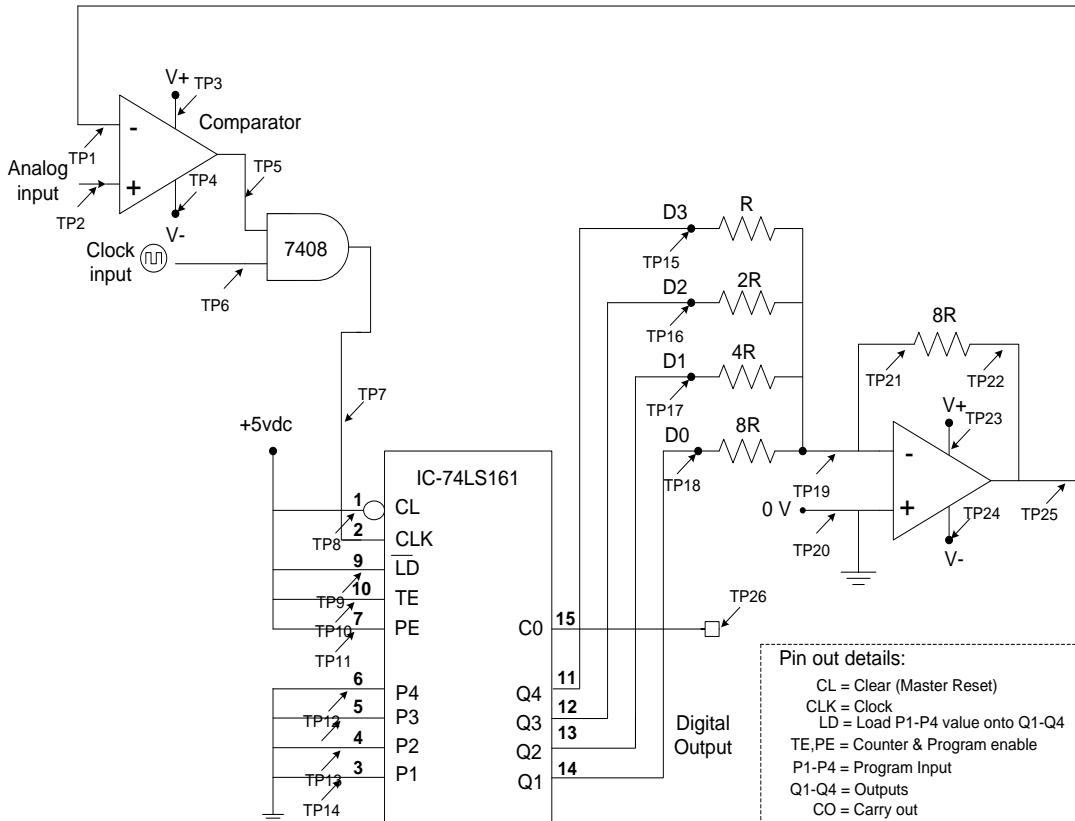

Figure 66: A-D Converter Circuit and Test Points
1. Set the analog input based on Table 26 and measure the voltage output V_o (Figure 66)